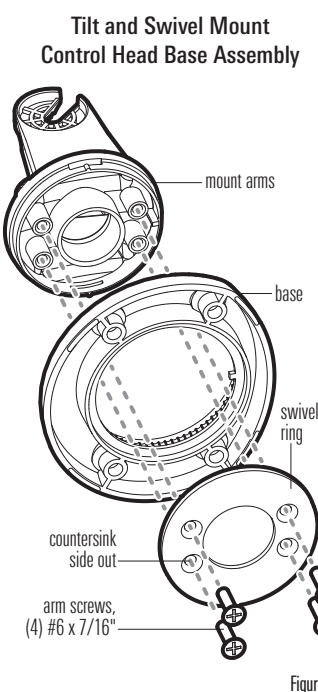

Figure 5
- Secure the mount arms with the four #6 screws provided (Figure 5). **Hand tighten only!**